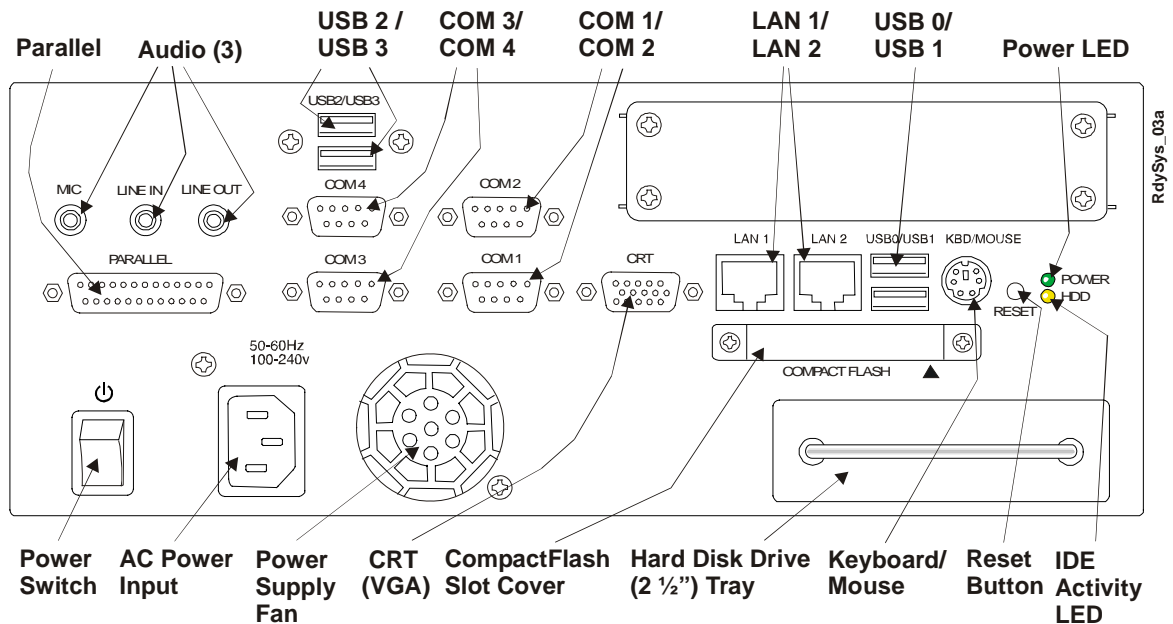

Figure 1-3. ReadySystem I/O Panel Controls and Connectors
<p>7) Connect the Y-cable and the respective peripheral cables/devices</p>	<ul style="list-style-type: none"> This includes the Y-cable for the PS/2 keyboard & mouse. Refer to Figure 1-3 and Table 1-1 for location and description of the connectors and controls.
<ul style="list-style-type: none"> Connect the PS/2 Keyboard & Mouse Y-cable assembly to the Keyboard/Mouse port on the ReadyBox I/O Panel. See Figure 1-3. This cable assembly provides two connectors for the PS/2 Keyboard and PS/2 Mouse shared port with icons for the specific device.
<ul style="list-style-type: none"> Connect the CRT monitor through its cable to the CRT (VGA) connector on the I/O Panel of the ReadyBox. See Figure 1-3.
8) Power up the ReadySystem	<ul style="list-style-type: none"> • Connect the supplied power cord into the AC input power connector of ReadySystem. See Figure 1-3. • Plug the CRT monitor's power cord into an AC outlet, and turn on the monitor. See Figure 1-3. • Plug the ReadySystem power cord into an AC outlet. • Press the ReadySystem's momentary power switch (\approx 1 sec) before continuing. See Figure 1-3 and Table 1-1.